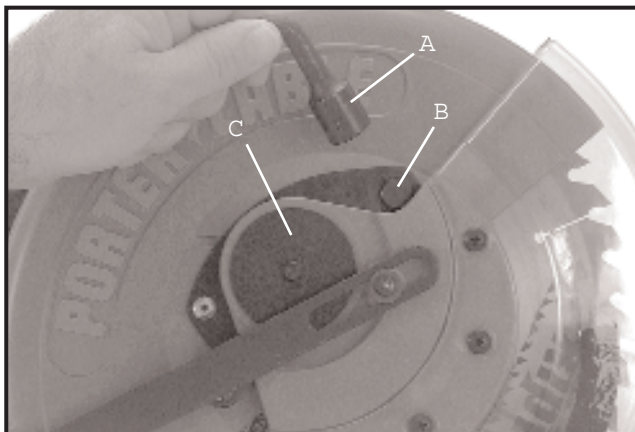

Fig. 51
- Using the special wrench (A) Fig. 51, supplied, loosen screw (B) to free arbor cover (C).
8. Rotate arbor cover (C) Fig. 51, until hook in cover is engaged under screw (B) and tighten screw (B) which was loosened in STEP 2.